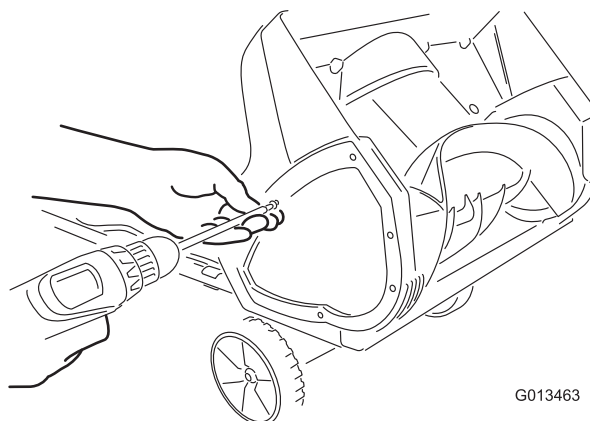

Figure 10
1. Remove the screws that secure the right side plate to the appliance frame (Figure 10).